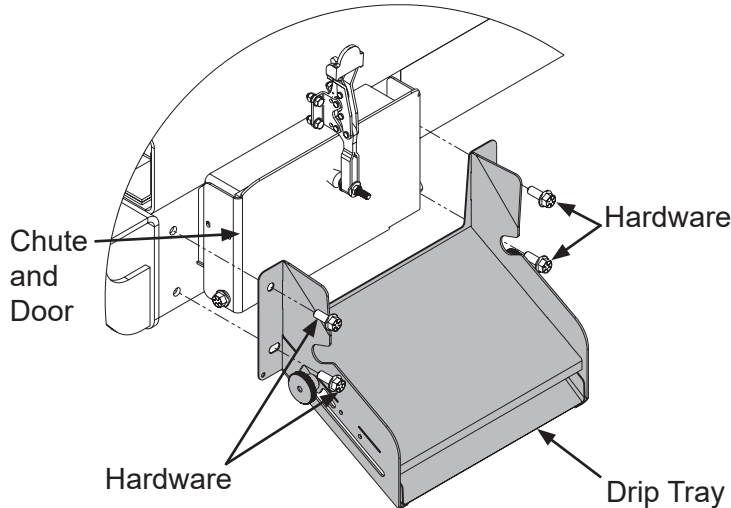

Figure 7
- If the vehicle is a Volterra® ZSL® side loader, reinstall the drip tray and its hardware (Figure 7). Securely tighten all hardware.